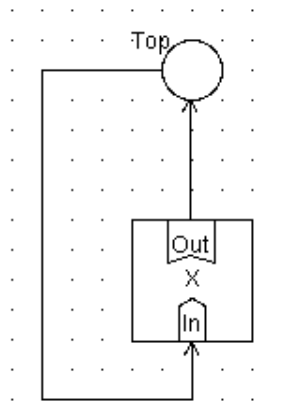

Figure 36: A simple model with an invocation of the *Erlang* macro
- Step 45:** Build your model around this macro invocation. An example is shown in figure 36.